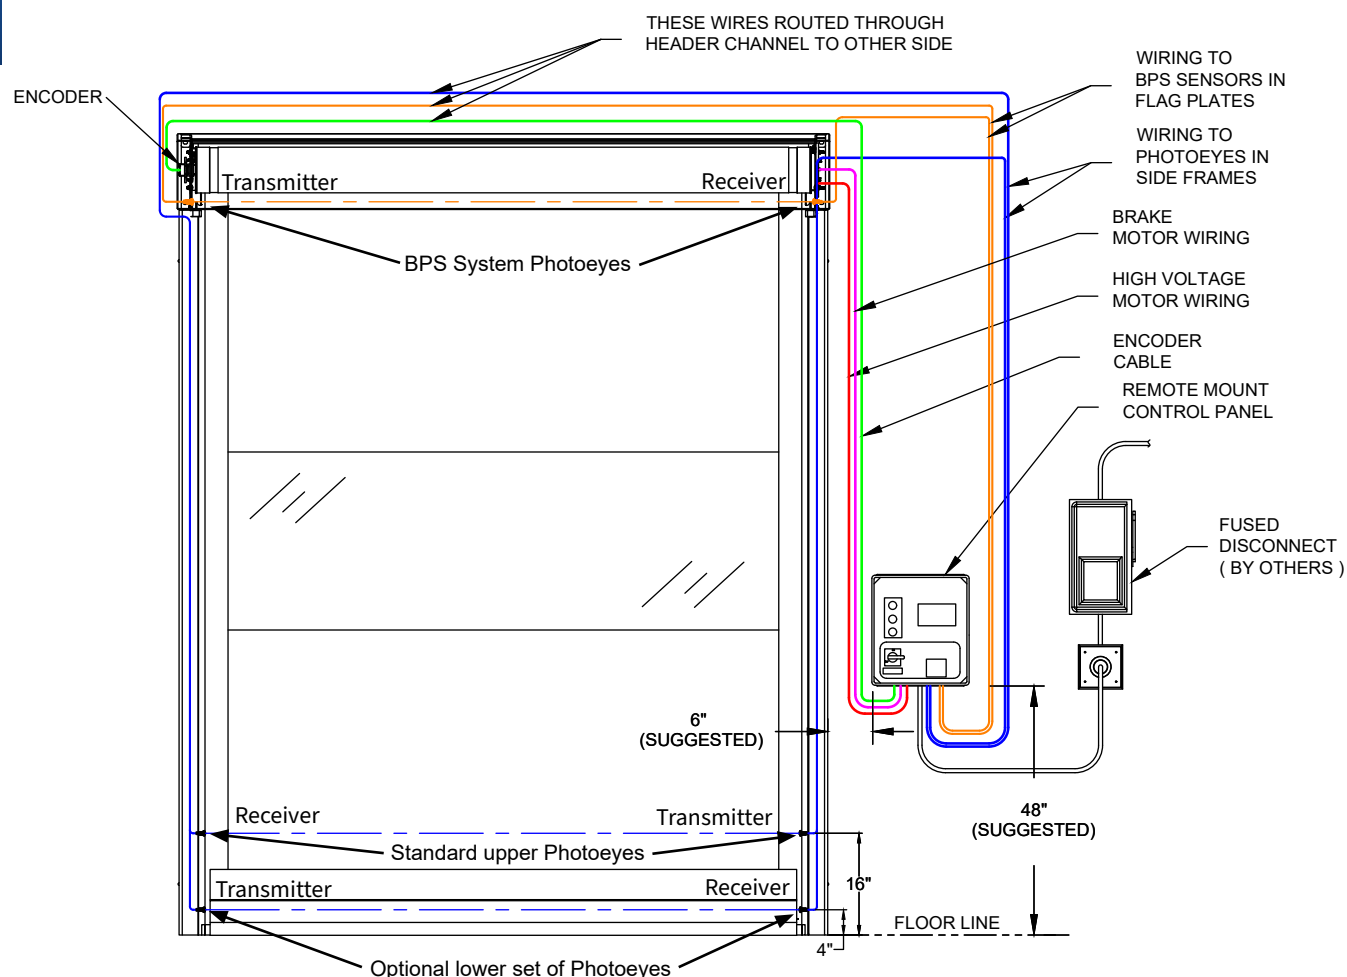

Figure 16: Wiring layout.
1. The cable from motor and brake must not be spliced. Run these cables to control box (Figure 16).